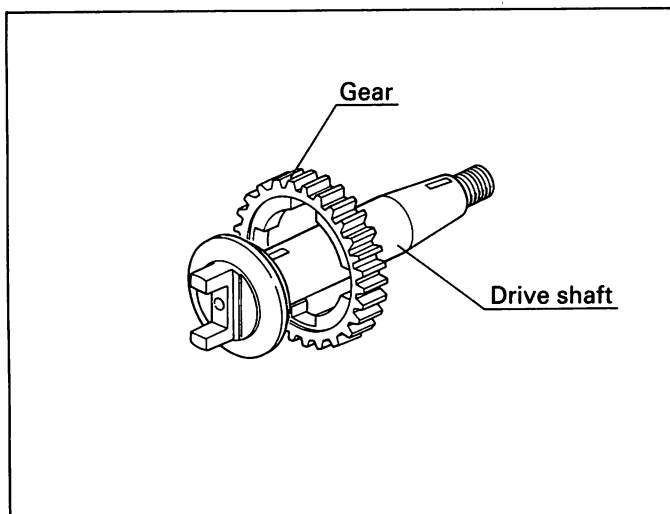

Fig. 42 Mounting the gear
1. Mount the gear on the drive shaft (12/1), ensuring that the stepped side of the gear faces the drive shaft teeth. (Fig. 42)